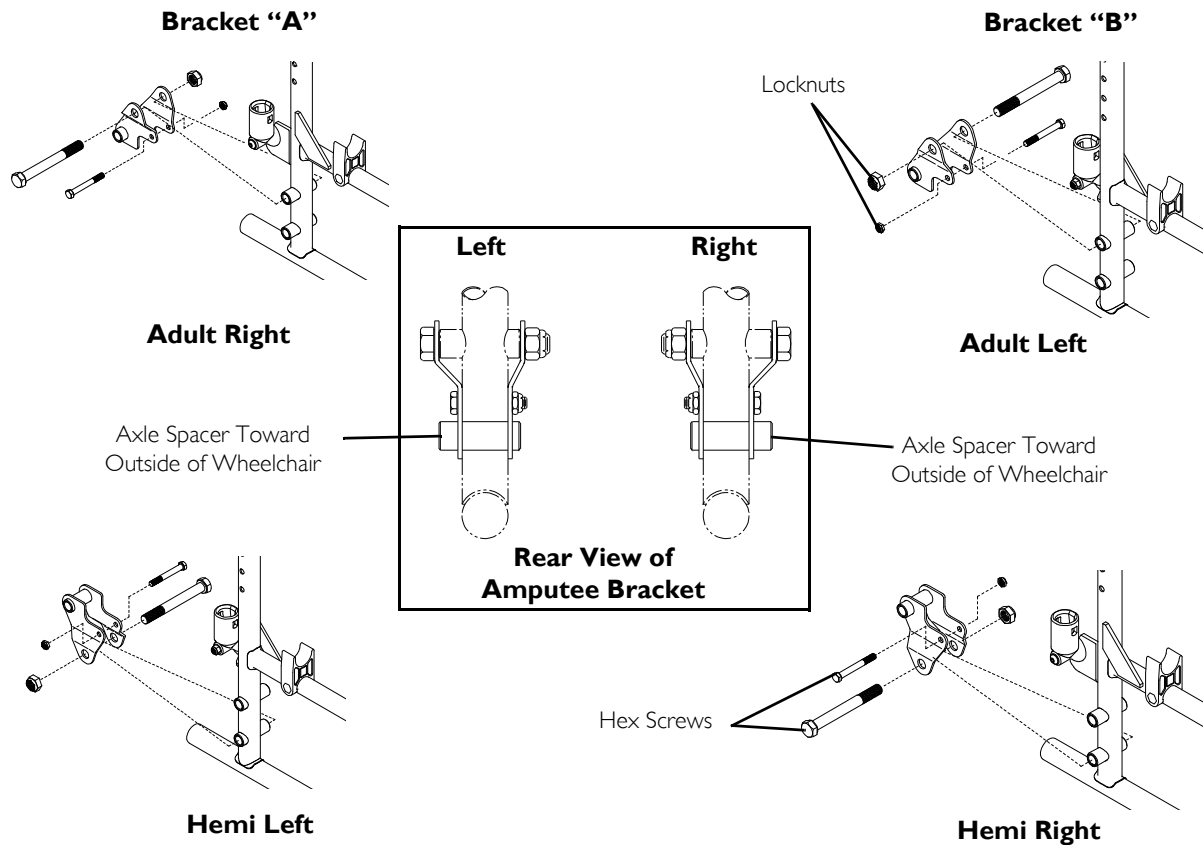

FIGURE 1 Installing Amputee Bracket
For this procedure, refer to FIGURE 1 on page 84.
1. Refer to the following chart or FIGURE 1 to determine the mounting position of the amputee bracket: